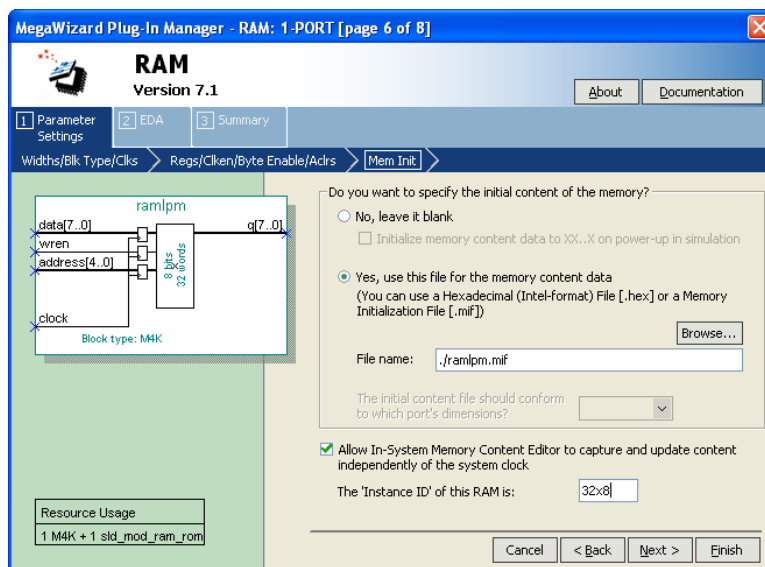
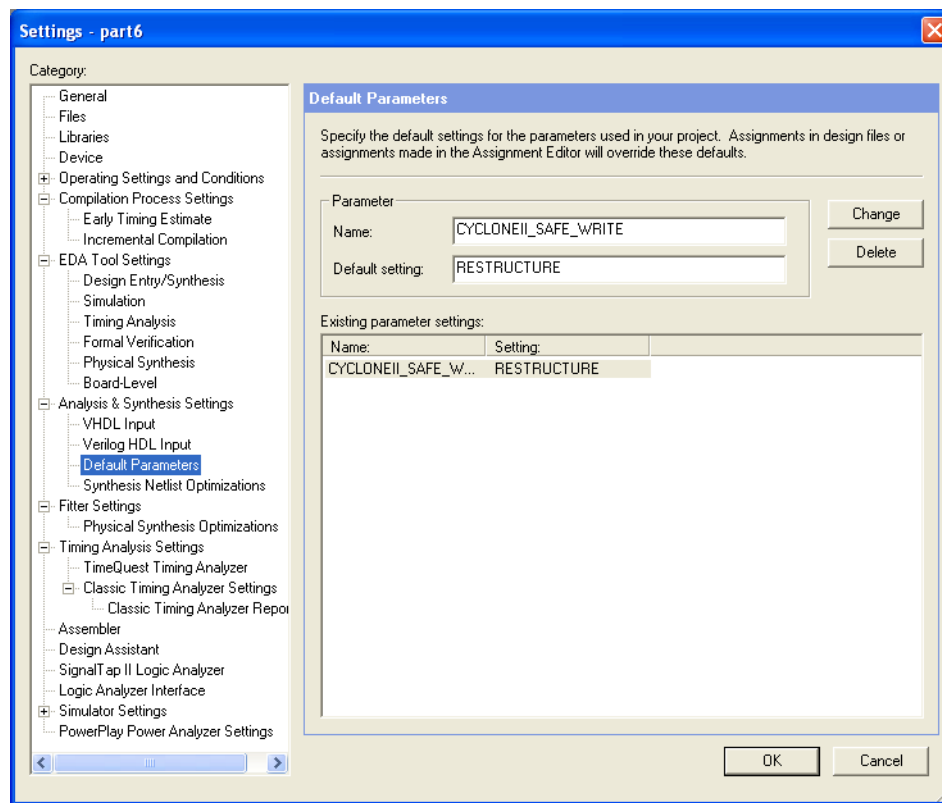

Figure 6. Configuring *RAM: 1-PORT* for use with the In-System Memory Content Editor.
Figure 7. Setting the *CYCLONEII\_SAFE\_WRITE* parameter.
- Create a new Quartus II project for your circuit, and use the MegaWizard Plug-in Manager to again create a *RAM: 1-PORT* LPM. For Pages 1 to 5 of the Wizard use the same settings as in Part I. On Page 6, shown in Figure 6, specify the *ramlpm.mif* file as you did in Part V, but also make the setting *Allow In-System Memory Content Editor* to capture and update content independently of the system clock. This option allows you to use a feature of the Quartus II CAD system called the In-System Memory Content Editor to view and manipulate the contents of the created RAM module. When using this tool you can optionally specify a four-character 'Instance ID' that serves as a name for the memory; in Figure 7 we gave the RAM module the name *32x8*. Complete the final steps in the Wizard.
3. Before you can use the In-System Memory Content Editor tool, one additional setting has to be made. In the Quartus II software select **Assignments > Settings** to open the window in Figure 7, and then open the item called **Default Parameters** under **Analysis and Synthesis Settings**. As shown in the figure, type the parameter name **CYCLONEII\_SAFE\_WRITE** and assign the value **RESTRICTURE**. This parameter allows the Quartus II synthesis tools to modify the single-port RAM as needed to allow reading and writing of the memory by the In-System Memory Content Editor tool. Click **OK** to exit from the Settings window.